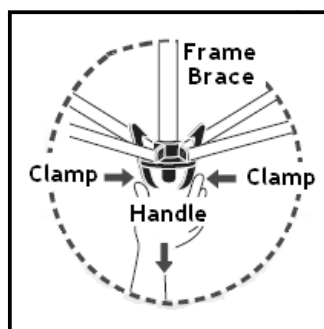

Fig. 11
3. Step underneath the lowered canopy and release the clamps securing the handle to the frame brace by pressing the clamps inward and pulling down on the handle. (*see Fig. 11*)